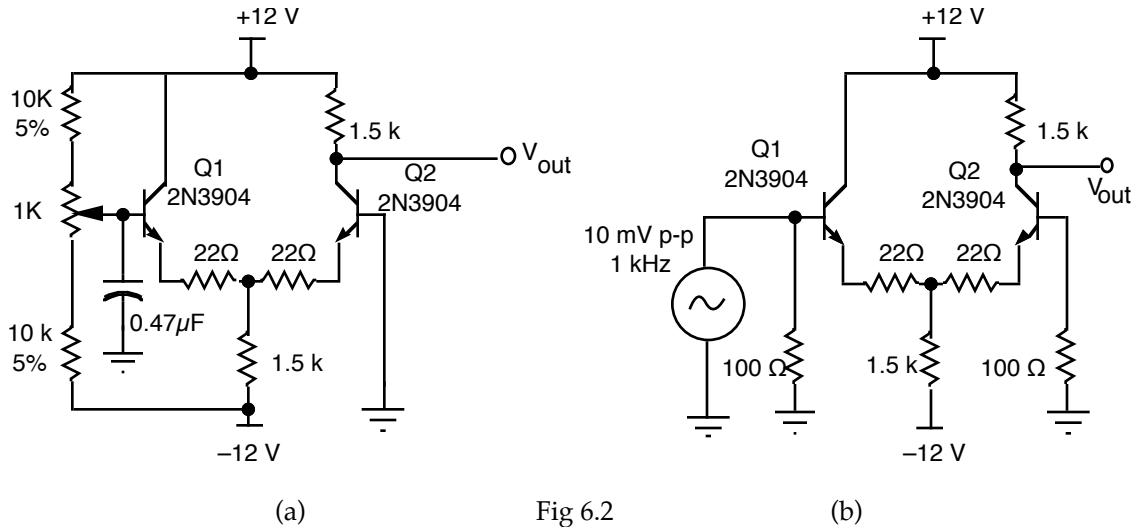

Fig 6.2
b) In Fig. 6.2(a), if you ground the base of transistor Q_1 , the transistors are identical and the components have the values shown, then the output voltage will be +6.35 V. For this
experiment, any deviation from +6.35 V will be called $V_{\text{out(off)}}$. Connect the circuit of Fig 6.2(a). Jumper the base of Q_1 to ground and measure $V_{\text{out(off)}}$. Take off the jumper and connect the potentiometer voltage-divider and adjust it until the output voltage is +6.35 V. Record the base voltage of Q_1 as $V_{\text{in(off)}}$.
c) Calculate the expected values of the differential and common-mode gains and the Common Mode Rejection Ratio. Measure the differential and common-mode gains, A and A_{CM} , using the connection of Fig. 6.2(b). Use a frequency of 1 kHz and a signal level of around 10 mV p-p.